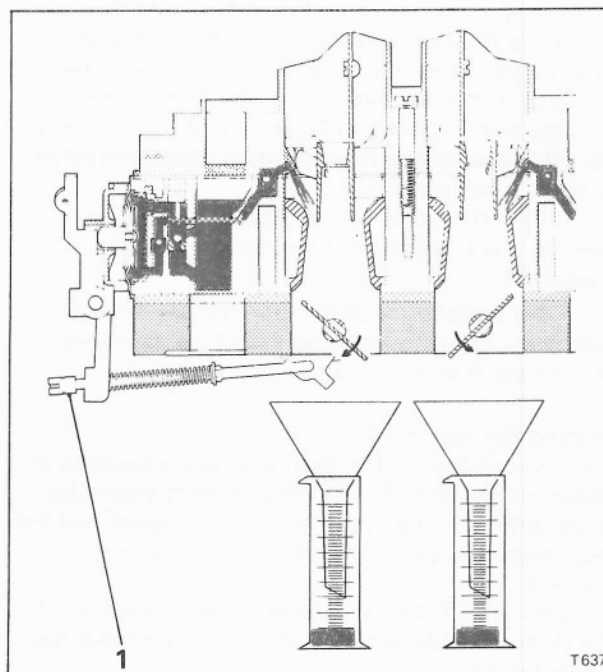

Fig. K74 Acceleration pump setting
2. Position the carburettor horizontally over two suitable measuring containers (see Fig. K74).
6. The amount of fuel injected can be regulated by adjusting the clamping screw (see Fig. K74).